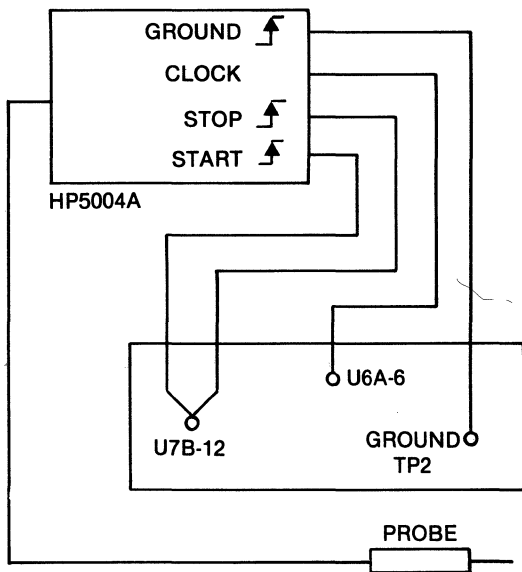

Figure 5-4. Signature Analyzer Connection
1.	Connect Analyzer as shown in Figure 5-4.